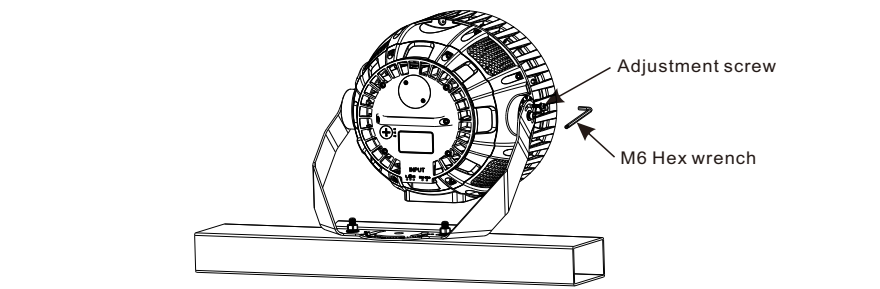

Figure 8
4. Use M6 hex wrench to loosen the adjustment screw used to adjust the angle (Figure 8).